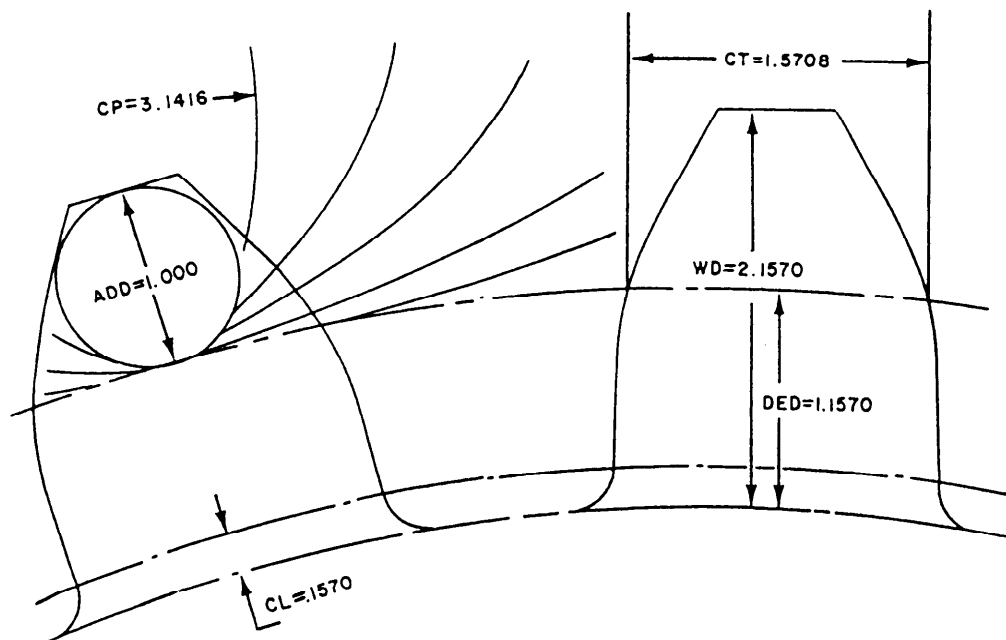

Figure AIV-1.—Tooth elements on a No. 1 diametral pitch gear.
1. TOOTH ELEMENTS based on a No. 1 diametral pitch gear (fig. AIV-1)